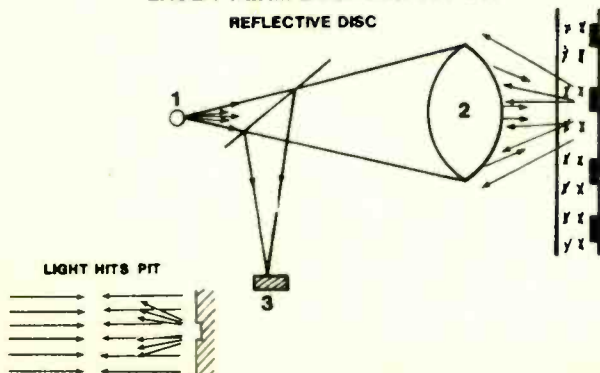

FIG. 5—THE LIGHT FROM THE LASER goes through the lens, is reflected by the disc back through the lens, and is picked up by a photodetector.
As Fig. 5 shows, the laser (1) travels through the lens (2) and is reflected off the disc back through the lens (2) and out into the photodetectors (3). The actual system has a more complicated path than shown; the beam is reflected by a series of mirrors before it strikes the disc.